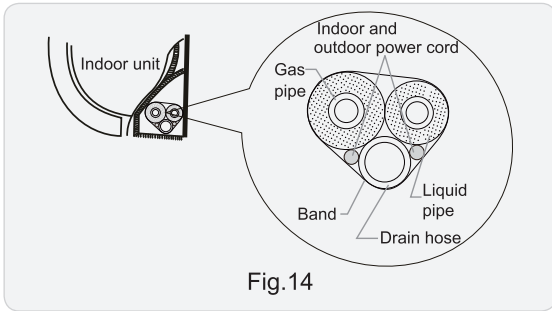

Fig. 14
(1) Bind up the connection pipe, power cord and drain hose with the band. (As show in Fig.14)